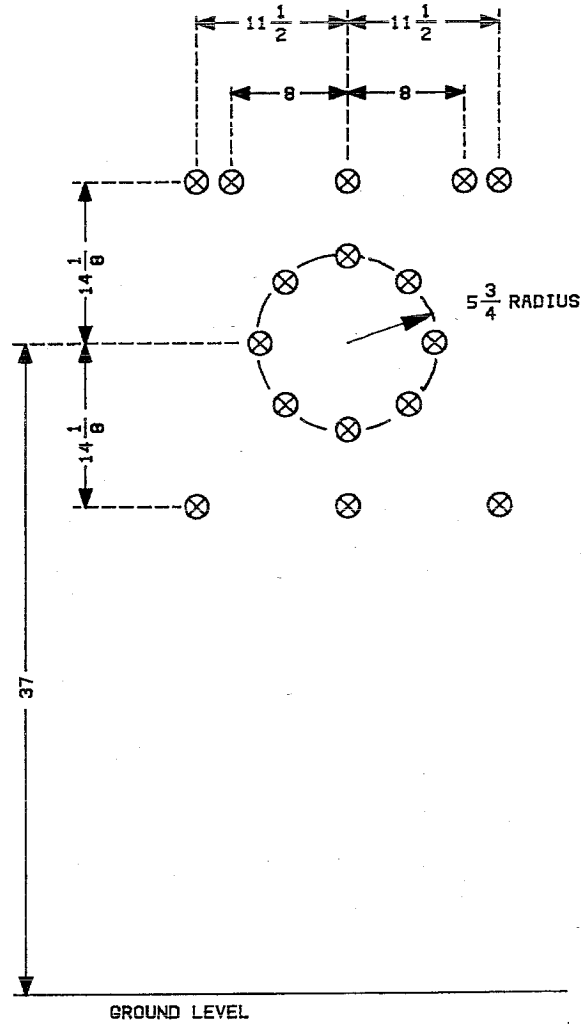

FIG.1
- C. VA signal target board set up 25 ft. away. See Figure 1.
- E. Place a sighting device (51120-4 Gr. 1) in the appropriate hole in the receptacle unit casting. Assemble the locking ball and set screw parts (dwg. 56895, ref. 14, 7, and 8 respectively) into the threaded hole which adjoins the sighting device cavity. Do not tighten these! Adjust the position of the sighting device with a paperclip or other custom adjustment tool to produce the following indications: